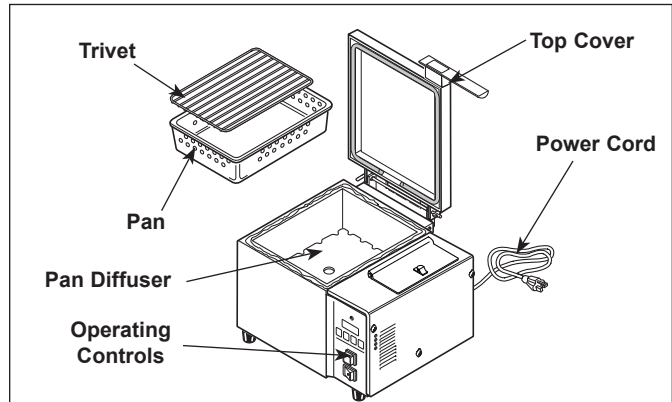

Figure 1. Components
4. Remove and wash the Pan, Trivet, and Diffuser (Figure 1) in soap and water. Rinse with clean water and allow to air dry.